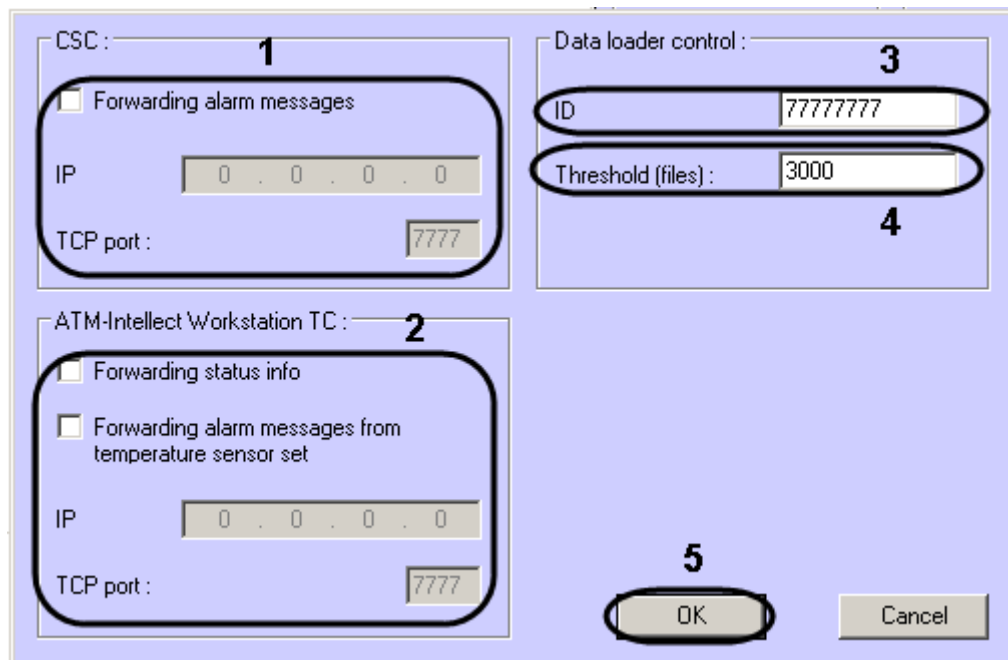

Figure 6.8—2 Setting up data monitoring
3. If Central Security Console (CSC) is installed on CCRVS, enable the **forwarding alarm messages** option and specify the corresponding IP address and TCP port (see Figure 6.8—2, 1).